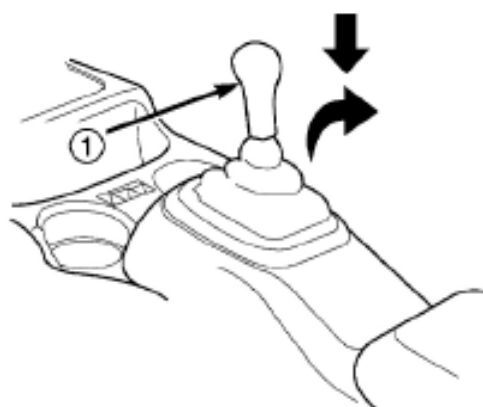

Figure 3-115 Disassembly of gear change hand lever/dust cover
- (1) Take apart fixed tab of transmission cover from the center console,
- (2) Push down the gear change hand lever and rotate it clockwise, then remove gearshift dust cover/knob assembly (Figure 3-115).
- (1) Raise and release the clamp and take apart the dust cover from center console.
- (2) Push down the knob and screw it clockwise to remove it (Figure 3-115).